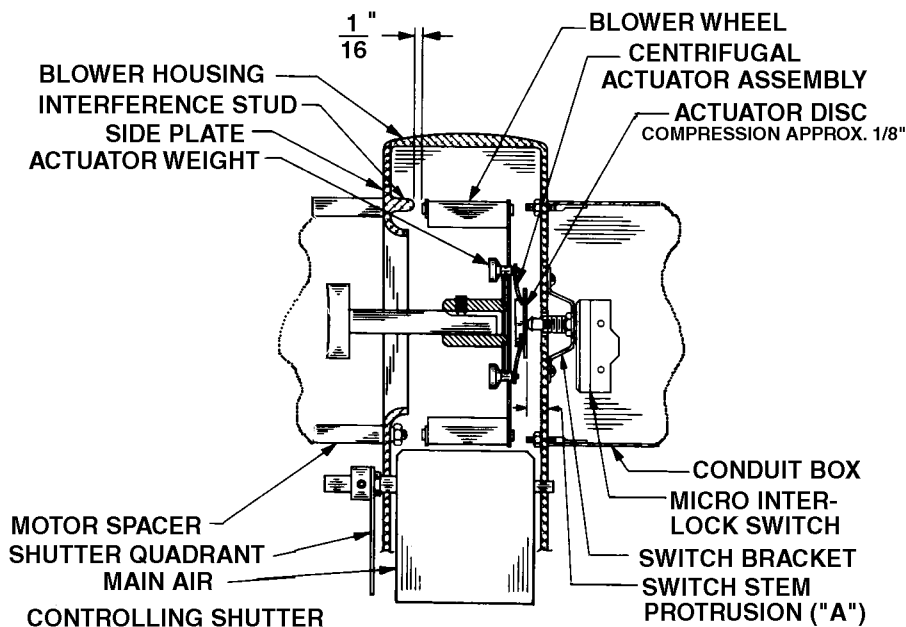

FIGURE 6 Motor, Blower and Interlock Assembly
- B. Voltage present: check that switch bracket is screwed down tight (see Figure 6). If so, without disconnecting switch wires, remove switch bracket and manually depress switch plunger. If voltage is still present, or if the plunger has to be depressed to where dimension "A" of Figure 6 is less than 9/32" when switch clicks over, replace the switch.
5. If the switch tests OK, check dimension "A" of Figure 6 as follows: